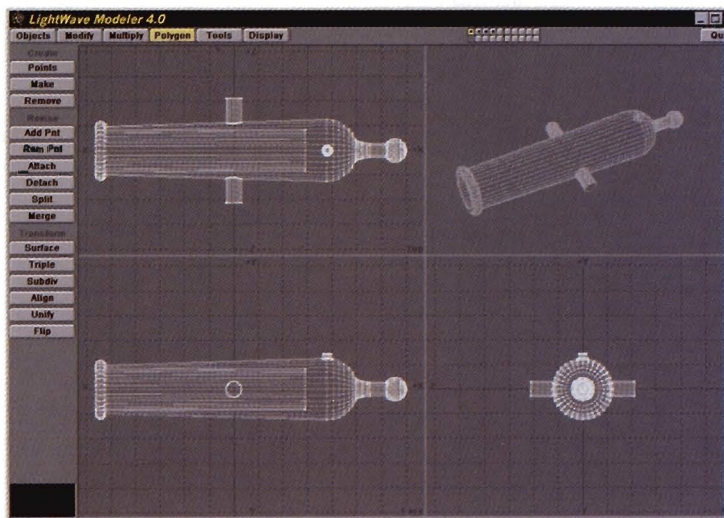
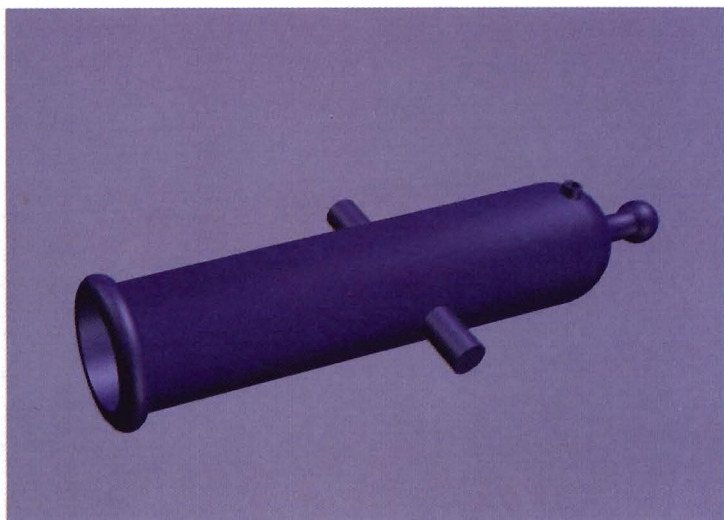

Figure 4
Figure 5
To save the barrel, select (S) for Save As and enter "Barrel.lwo". The finished barrel, if everything went o.k., should look like Figure 4 in Modeler. Notice the position of the rotation rods at the center of the Modeler screen. This is the local origin of the rotation for the barrel. Figure 5 shows what you should get when rendered in Layout. Make sure to turn on Smoothing for the surfaces named "Barrel-Smooth" in the Surfaces panel.